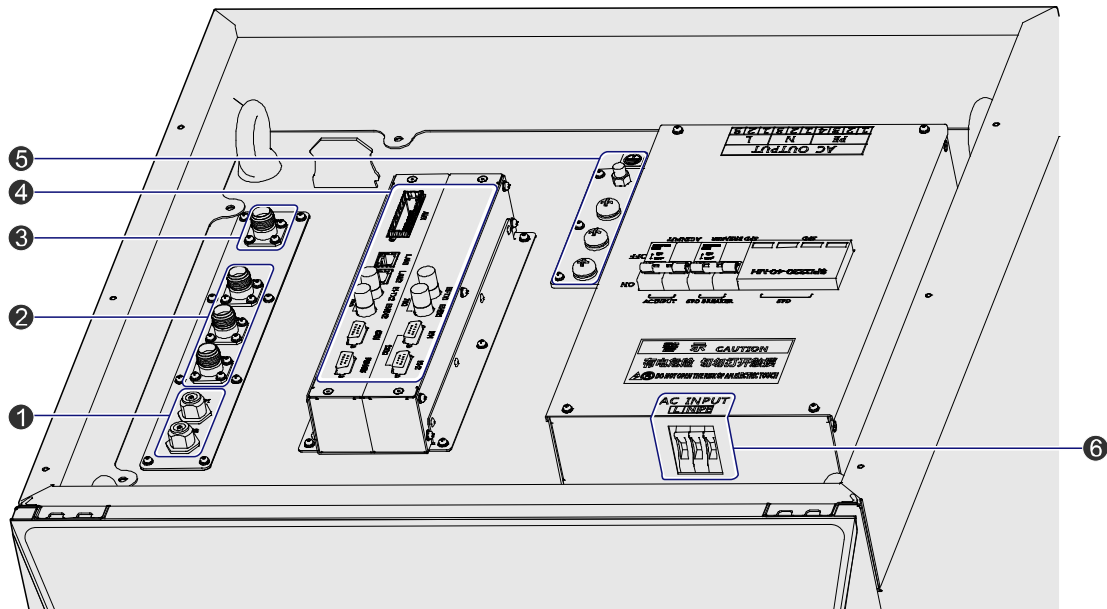

Figure 3-16 External Cable Connection
**Step 7** Connect all cables as shown in Figure 3-16.
Cables are described in Table 3-3 and their positions are shown in Figure 3-16. Installation positions